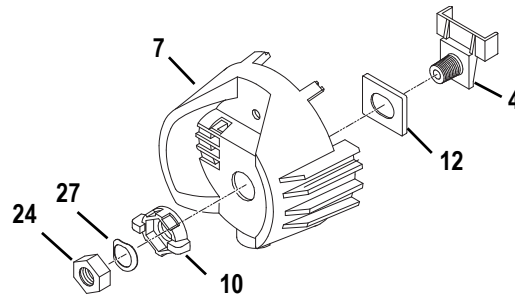

Figure 5
- Step 7: Install the bushing cup (12) into the housing socket casting (7) as shown in Figure 5. The cup should slide smoothly up and down, but not side to side.
- Step 8: Insert the threaded end of the index hub (4) through the holes in the bushing cup and the back of the housing socket casting (7).
- Step 9: Slide the X-Y knob (10) over the exposed index hub bolt (4), then insert the wave washer (27) on the bolt and secure with the 9/16 hex nut (24). Hand tighten the X-Y knob (10).